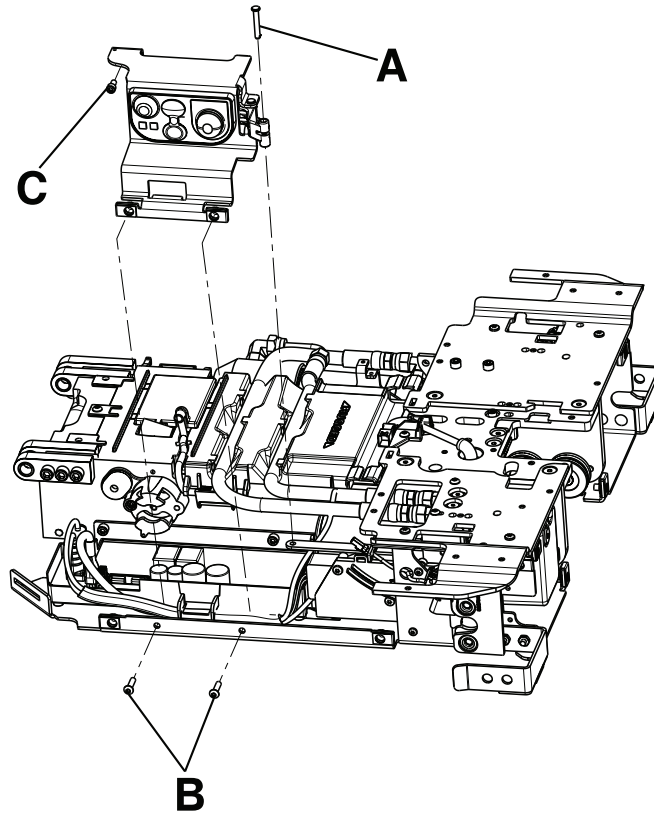

Figure 8: Manual release button assembly
- Remove the slic pin (A) from the switch/bracket assembly (Figure 8 on page 43).
- Using a T25 Torx driver, remove the two button head cap screws (B) that secure the manual release button bracket to the trolley frame (Figure 8 on page 43).
- Using a 5/32" hex wrench, loosen (do not remove) the socket head cap screw (C) that secures the manual release button bracket to the trolley frame (Figure 8 on page 43).